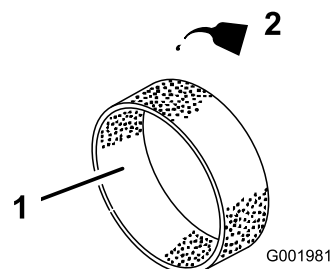

Figure 46
4. Put one or two ounces of oil on the element (Figure 46).